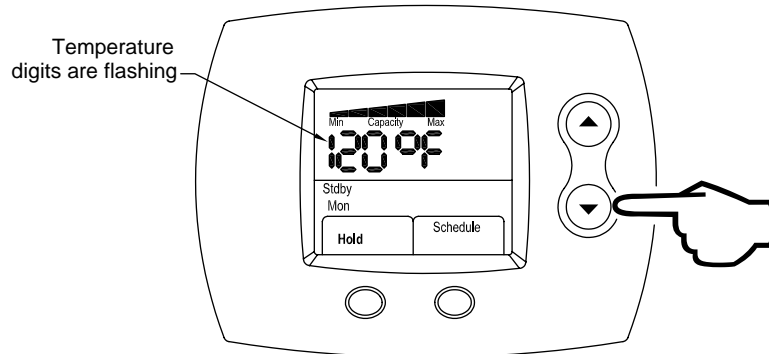

Figure 106
Step 1: From the Home screen, press the **UP** (increase water temperature) or **DOWN** (decrease water temperature) buttons until the new desired water temperature is shown. This is shown in Figure 106.